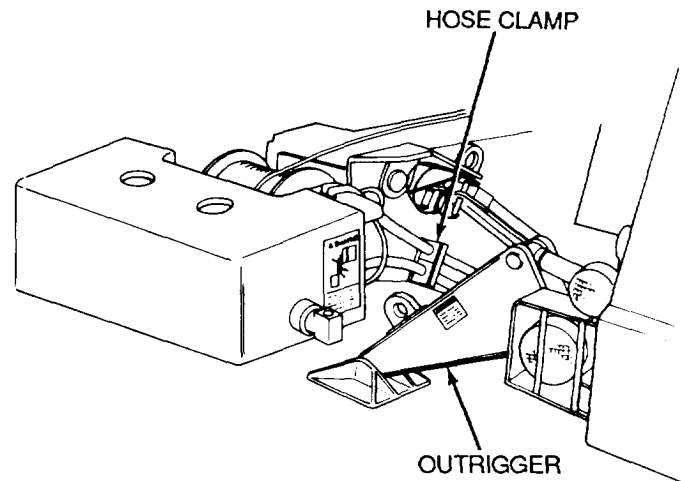

Figure 5-34 *Positioning Outrigger*
Carrier is to be positioned parallel to upperstructure on operator’s right side, with boom tip to rear and counterweight to front. Front outrigger beam is to be positioned approximately even with upper hose clamp (Figure 5-34).
- c. Maneuver carrier over toward upperstructure, positioning right front outrigger beam in under upperstructure (Figure 5-34).